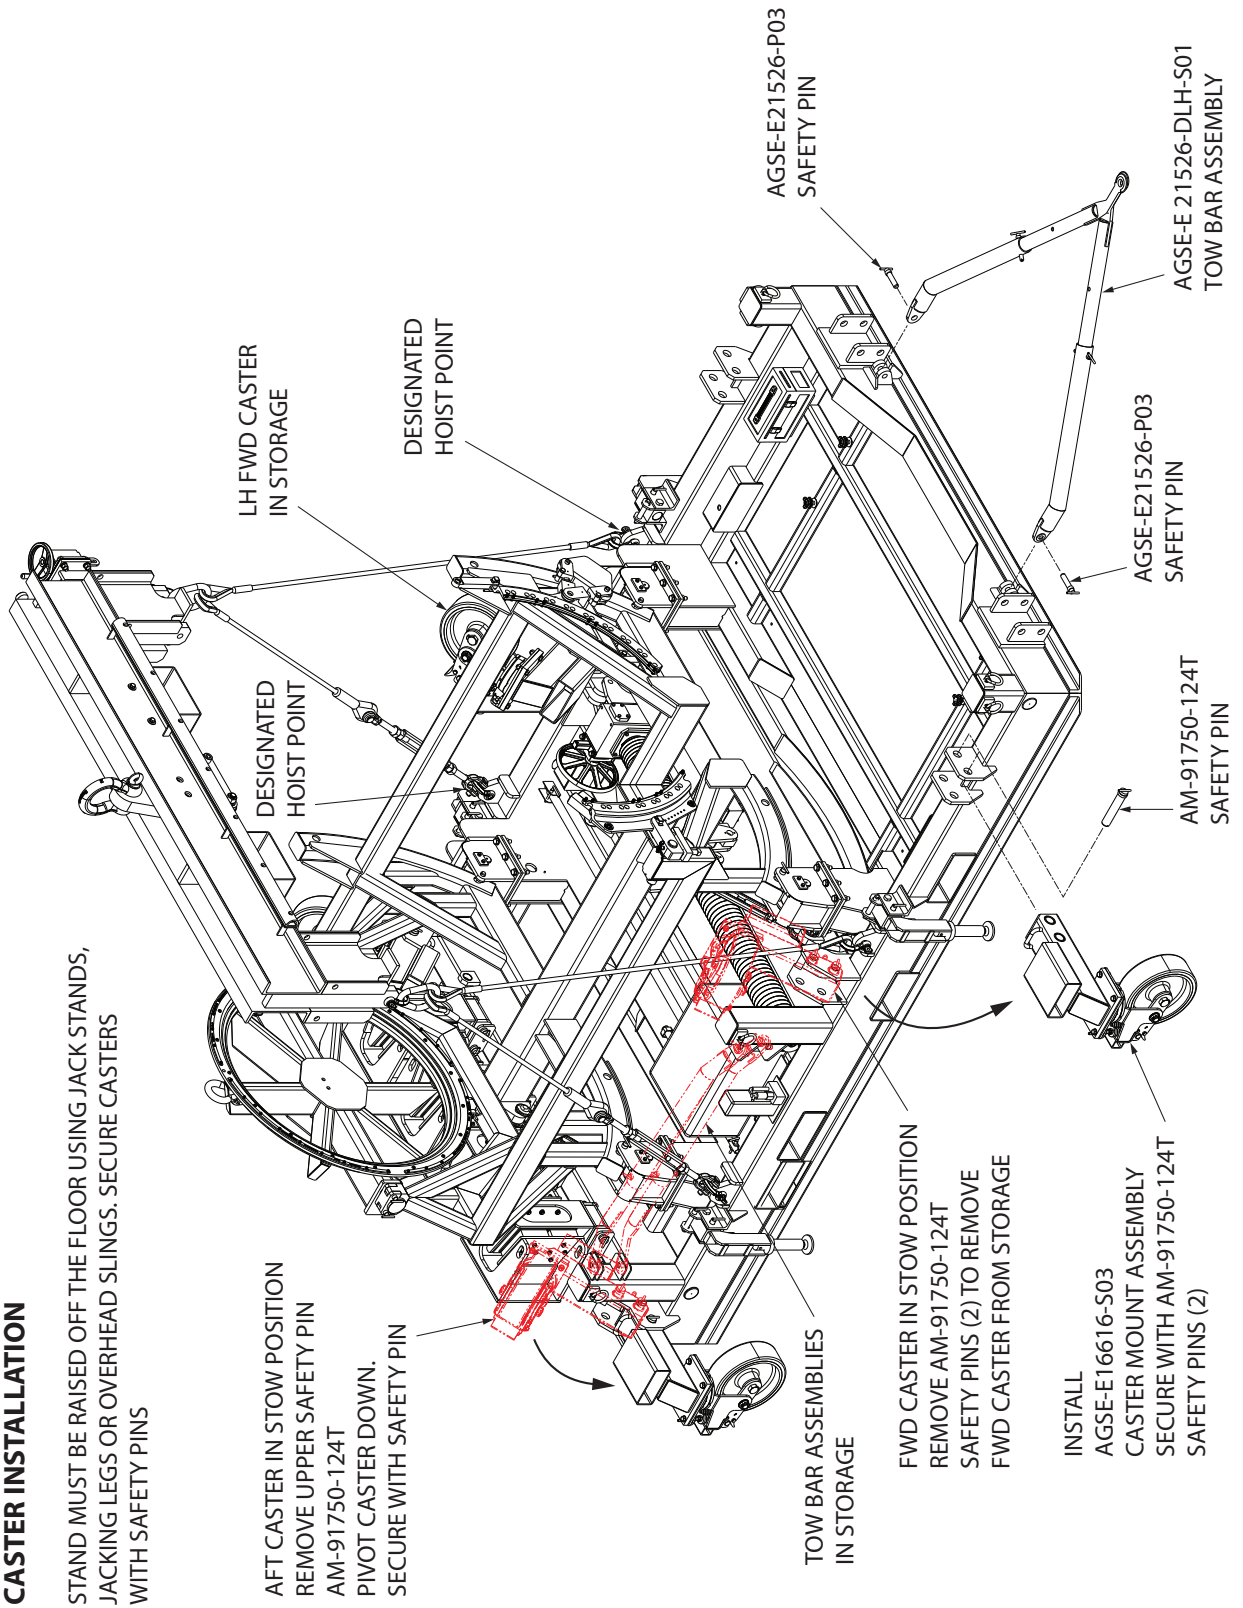

Figure 5.6-1 Casters and Tow Bars Installation
5.6 Casters and Tow Bar Installation and Usage (Figure 5.6-1)